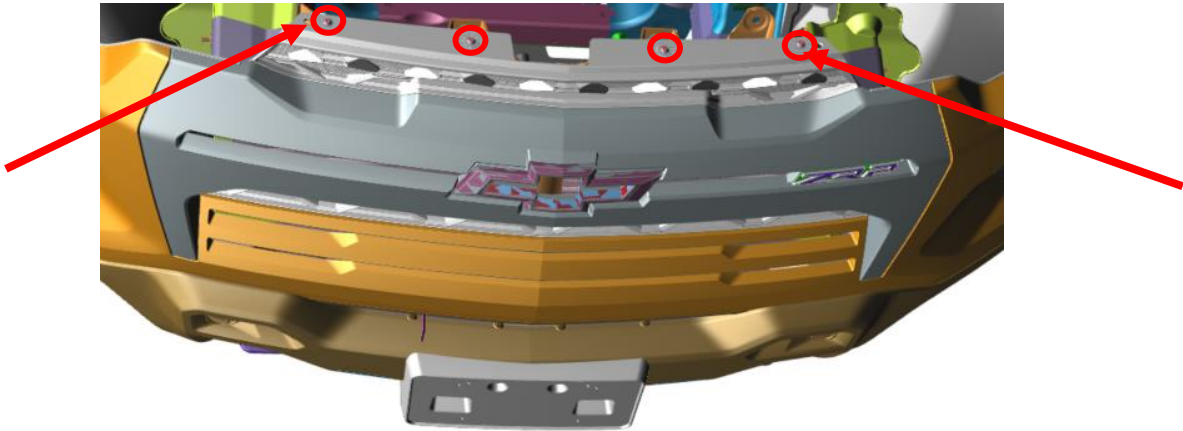

Figure 5 - Top of Vehicle
- c. Remove [4] M4 Bolts (M7 Socket) along top hood & [4] M4 Bolts along bottom of shutter baffle. Save hood bolts for re-install. - Fig. 5 & 6.